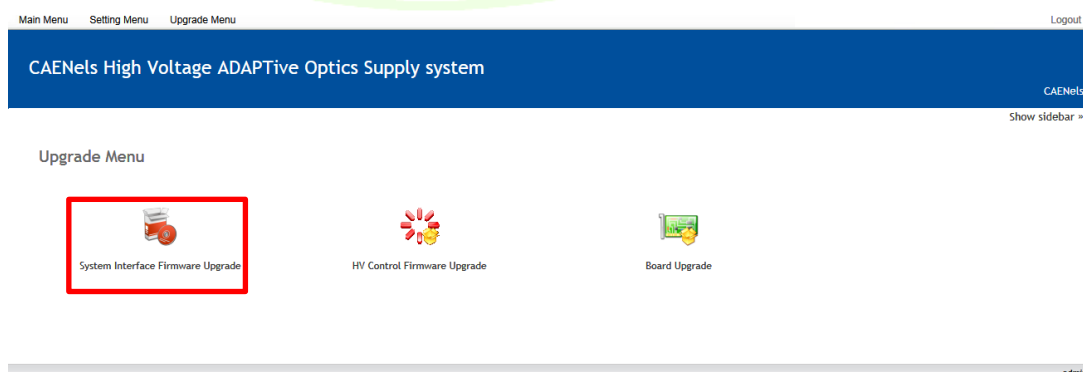

Figure 28: Upgrade Menu
- if a newer revision of system interface is available, click on the *Upgrade Menu* -> *System Interface Firmware Upgrade* icon as indicated in **Figure 28**;